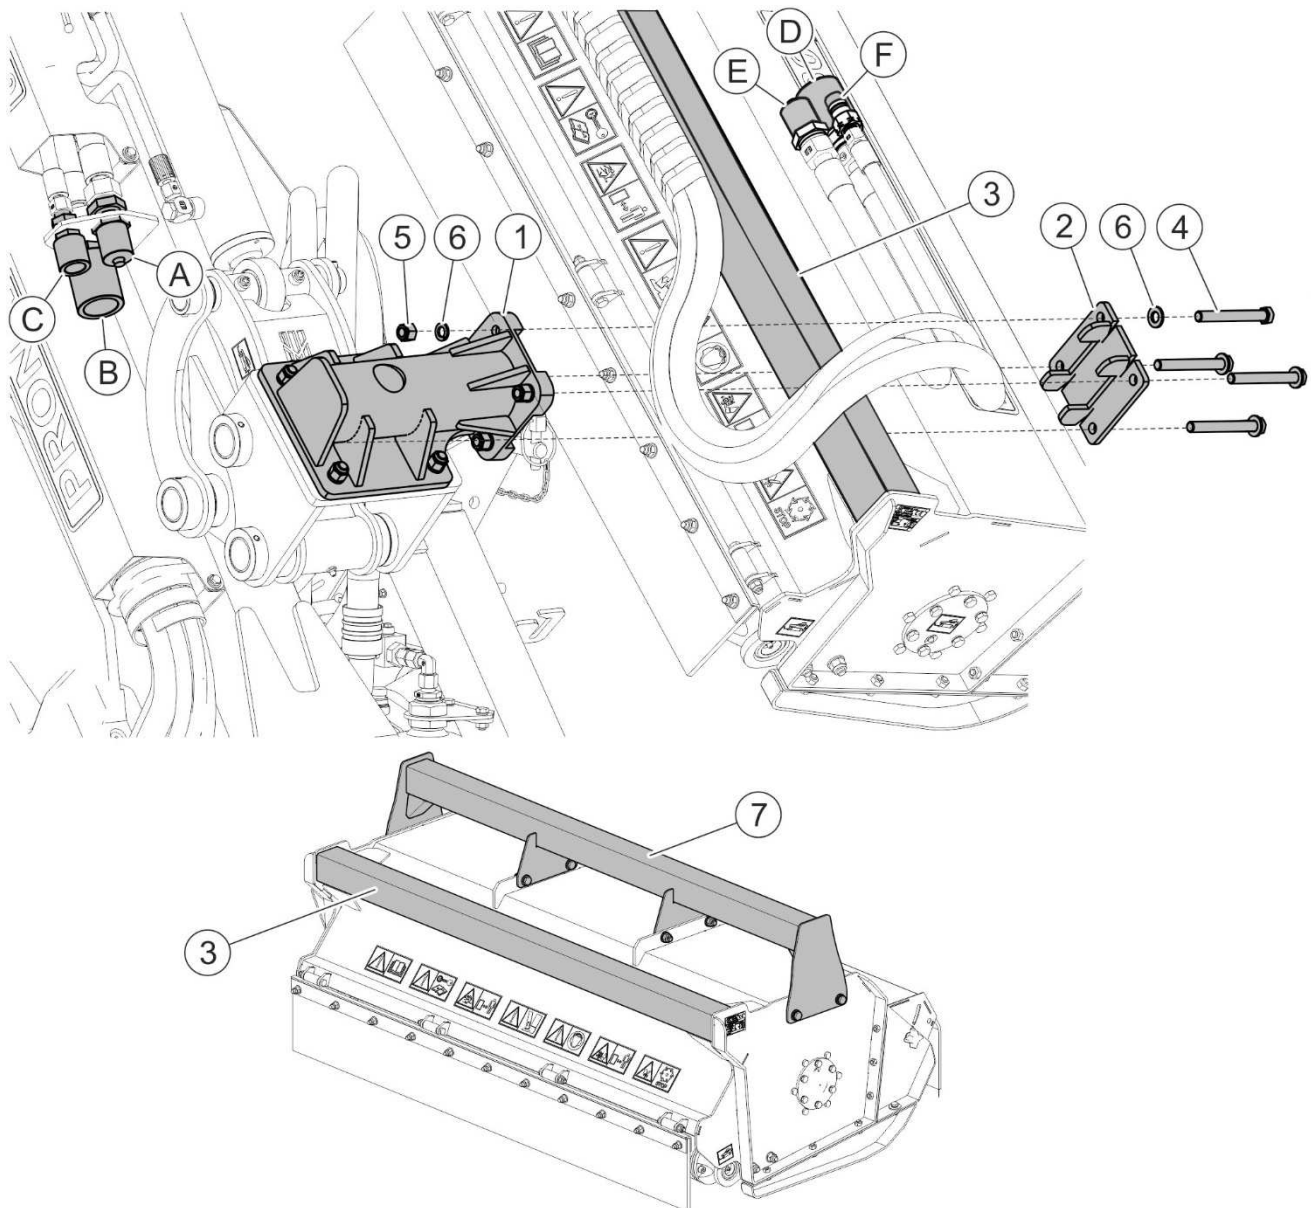

FIGURE 4.1 Attach the mowing head to the multifunction arm.
(1)-handle of working head connection of multifunction arm; (2)- lock of working head connection of multifunction arm; (3)- mowing head 60x60 support beam ; (4)- mowing head fixing bolts; (5)- nuts; (6)- washers; (7)- central support beam 60x60 of the GK100L / GK120L / GK140L mowing head (option); (A)- mowing head hydraulic power quick coupler; (B)- cutting hear return hydraulic quick coupler; (C)- free drain hydraulic quick coupler; (D)- mowing head hydraulic power quick coupler; (E)- mowing head return hydraulic quick coupler; (F)- hydraulic motor free drain hydraulic coupler.
PRONAR GK80L / GK100L / GK120L / GK140L mowing heads can be attached to multifunction arm with TYPE 60 (1) head connector (FIGURE 4.1), two hydraulic quick couplers (A) and (B) that provide power to the hydraulic motor and one free drain hydraulic quick coupler (C).
In order to hitch the mowing head to the multifunction arm head (FIGURE 4.1), proceed as follows:
Connect mowing head hydraulic motor free drain hydraulic line (*F*) (FIGURE 4.1) to multifunction arm free drain quick coupler (*C*). If not connected, there is a risk of damage to mowing head hydraulic motor.